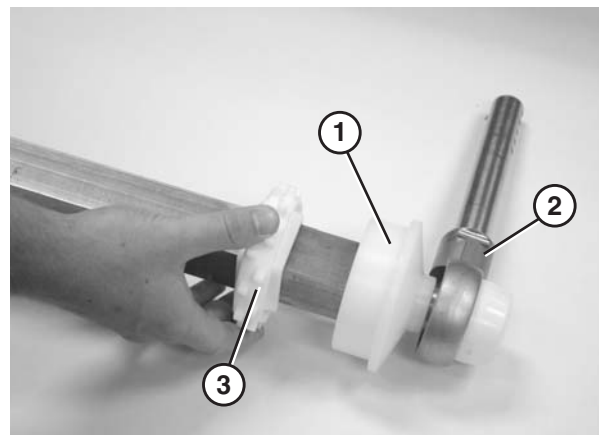

**Figure 78**
5. Use a hex wrench (**Figure 78, item 1**) to tighten the bearing shaft fasteners (**Figure 78, item 2**) to 6 N•m. Check after 24 hours of conveyor use.